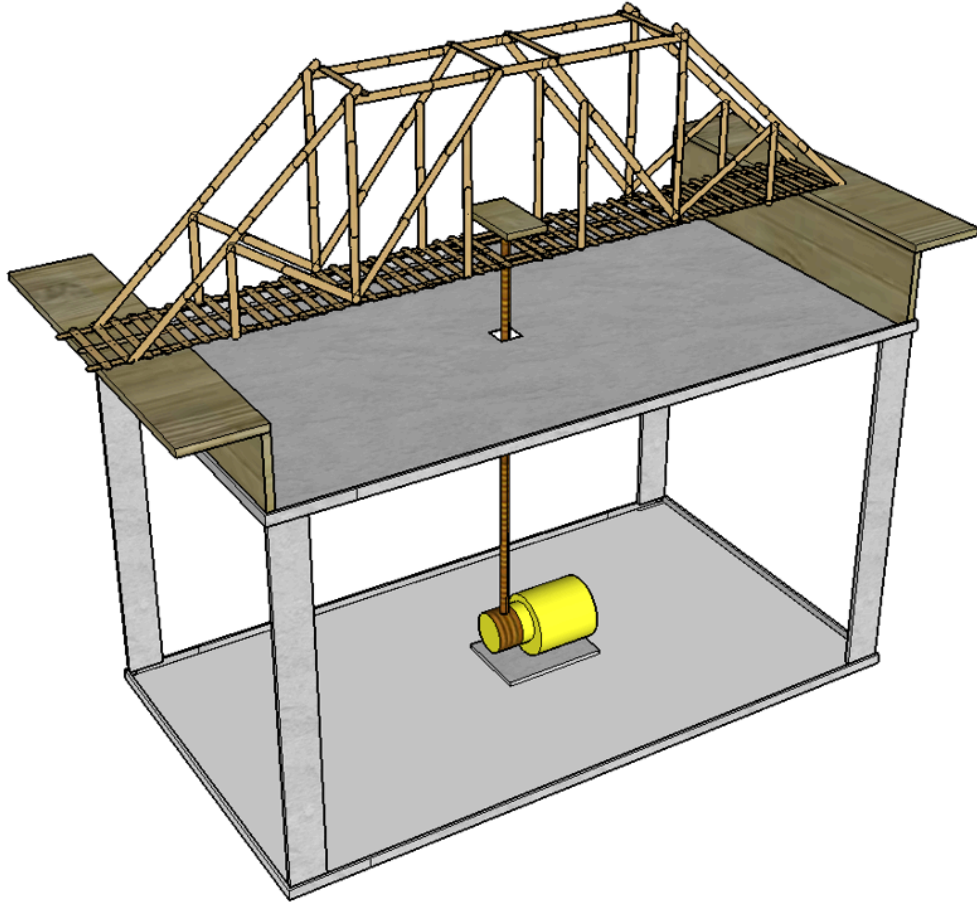

Figure 7 - Loading Configuration
- Downward continuous load will be applied at the 1.5" x 1.5" opening located at the center of the bridge. Do not obstruct the opening, loading apparatus must be placed at this location. Refer to Figures 7 and 8.
- Only the loading machine end supports may be used to support your bridge, no other surfaces. Refer to Figure 7.
- Bridges must accommodate the loading apparatus (3"x3" plate) which needs to be inserted EITHER through the top of the bridge or the side of the bridge to be placed directly over the 1.5"x1.5" opening which will be used to connect to the bottom loading cable and winch**. See Figures 7 and 8.